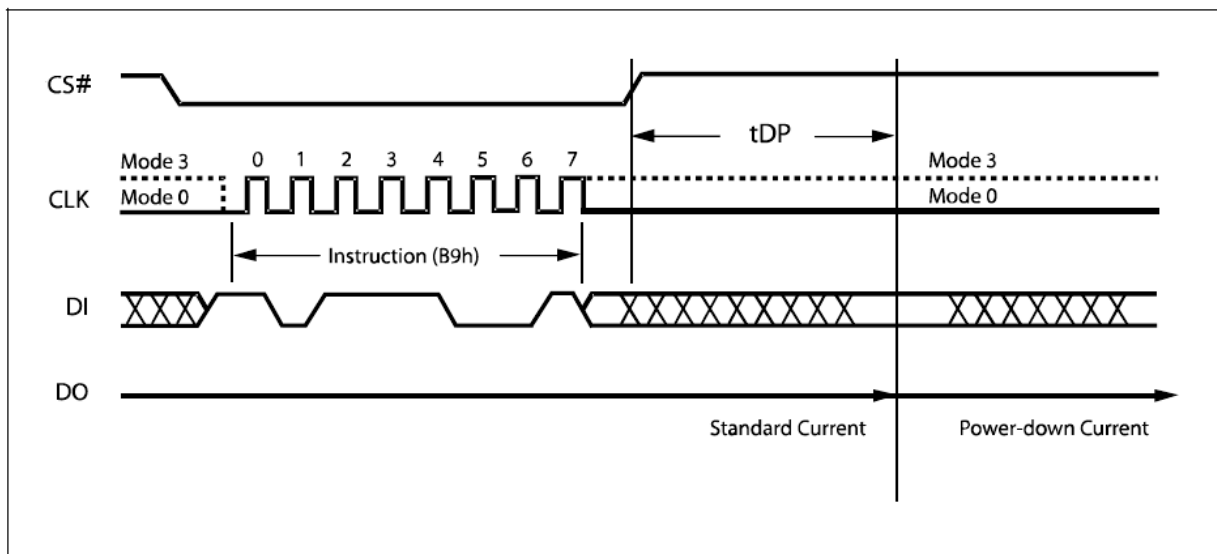

Figure 27. Deep Power-down Instruction Sequence Diagram
The instruction sequence is shown in Figure 27. Chip Select (CS#) must be driven High after the eighth bit of the instruction code has been latched in, otherwise the Deep Power-down (DP) instruction is not executed. As soon as Chip Select (CS#) is driven High, it requires a delay of t_{DP} before the supply current is reduced to I_{CC2} and the Deep Power-down mode is entered.